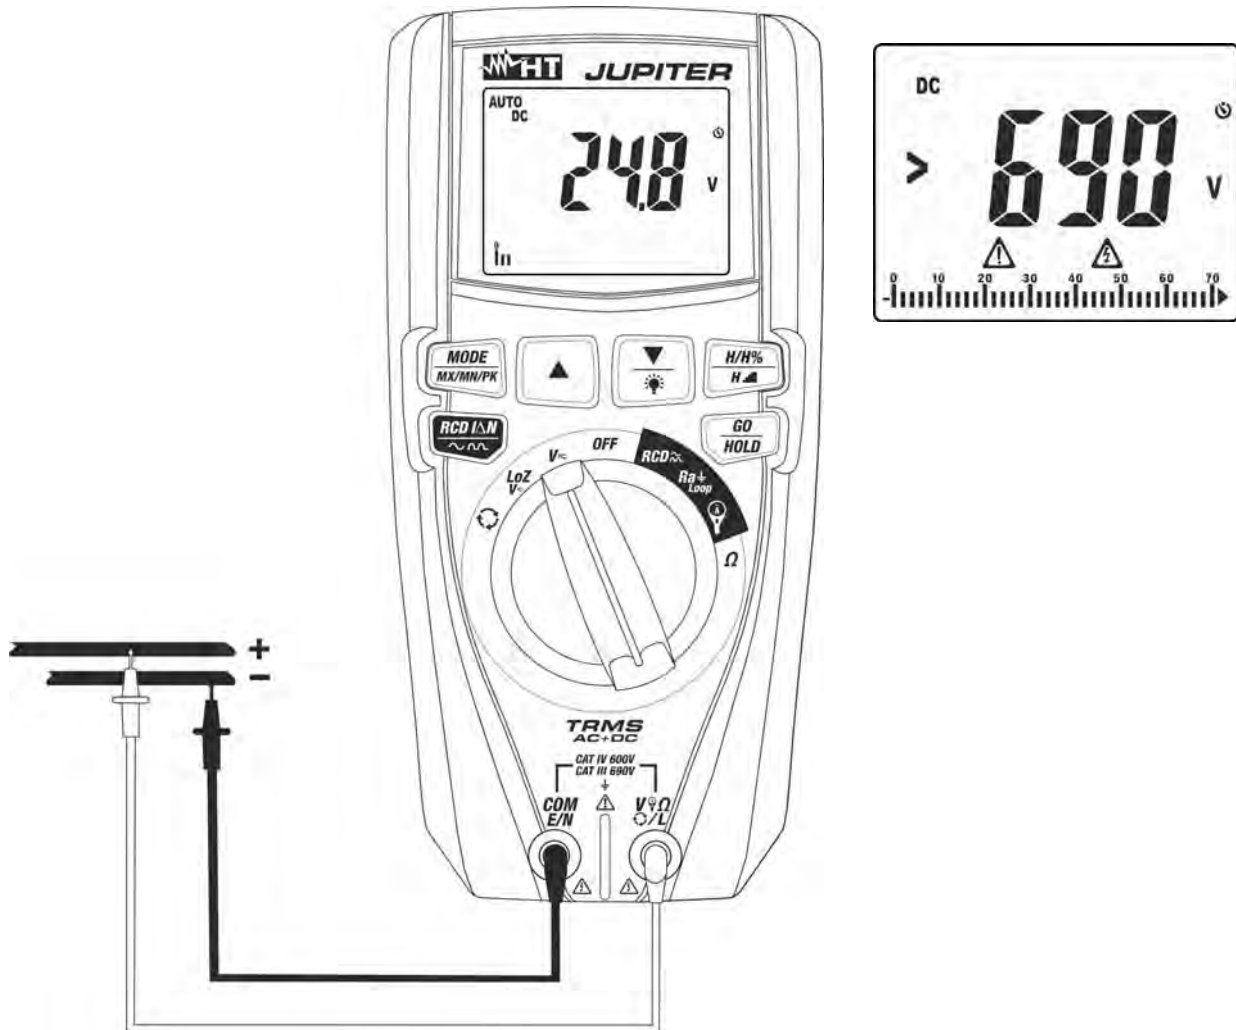
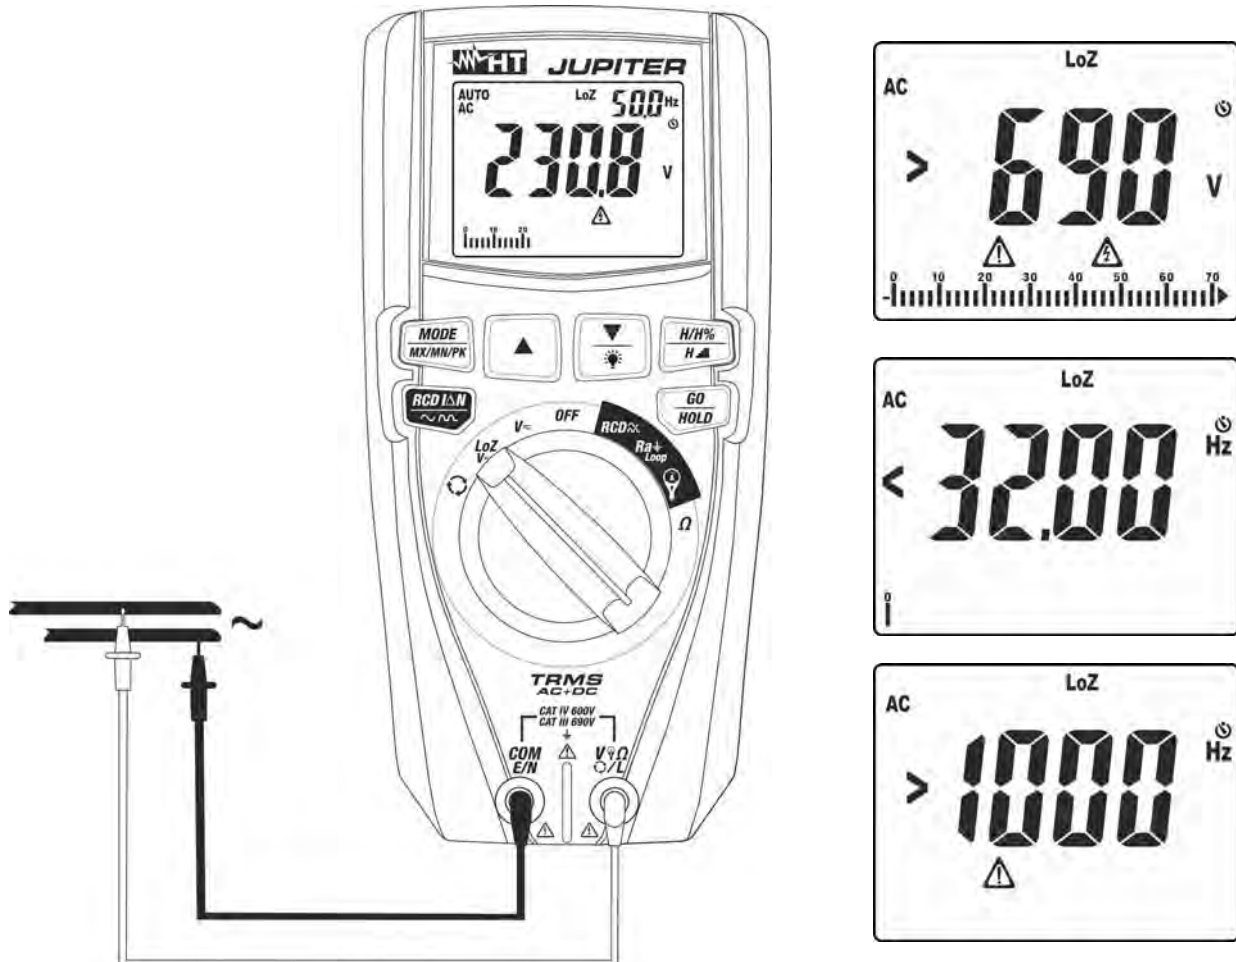

Fig. 8: Use of the instrument for DC voltage measurement
Fig. 10: Use of the instrument for AC/DC voltage measurement with LoZ function
3. Position the red lead and the black lead respectively in the spots with positive and negative potential of the circuit to be measured (see Fig. 8). The display shows the value of voltage.
4. If the display shows the message "**>690V**" (see Fig. 8), the maximum measurable value has been reached.
5. When symbol "-" appears on the instrument's display, it means that voltage has the opposite direction with respect to the connection in Fig. 8.
4. Position the red lead and the black lead respectively in the positions of the circuit to be tested (see Fig. 10) for AC voltage measurement or in the positions with a positive or negative potential of the circuit to be tested (see Fig. 8) for DC voltage measurement. The display shows the value of voltage. On the top of the display on the right side, the value of voltage frequency is displayed. Press key **MODE/MX/MN/PK** to display the value of frequency with a higher resolution.
5. If the display shows the messages "<32Hz" or ">1000Hz" (see Fig. 10), the value of frequency is out of the measuring range 32Hz ÷ 1000Hz.
6. When symbol "-" appears on the instrument's display, it means that voltage has the opposite direction with respect to the connection in Fig. 8.